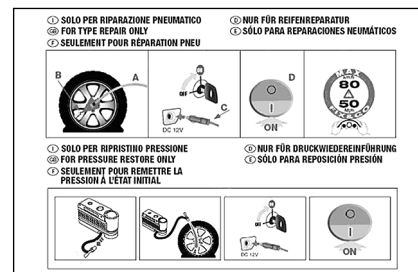

fig. 2
- ☐ instruction brochure (see **fig. 2**), to be used for prompt and proper use of the quick repair kit and to be then handed to the personnel charged with handling the treated tyre;